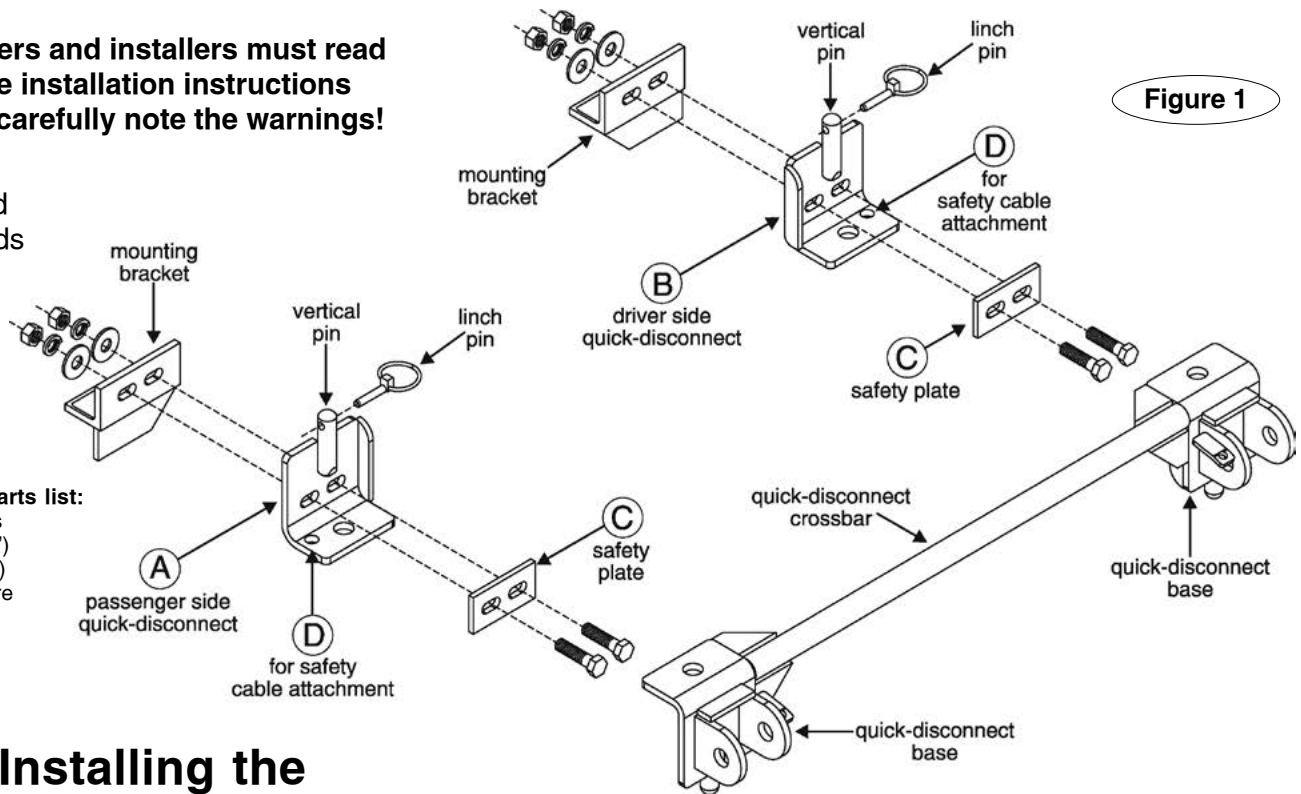

Figure 1
1. First, attach the quick-disconnects ("QDs," parts "A" and "B" in Figure 1) to the tow bar mounting brackets. Attach the QDs so that the vertical pin on each is pointing up, as shown in Figure 1.
Attach part "A" on the passenger side, and part "B" on the driver's side. Use the supplied $\frac{1}{2}$ " x $1\frac{1}{4}$ " bolts, the two safety plates (parts "C"), and the flat washers, lock washers and nuts, as shown in Figure 1.
Both QDs have an extra hole – "D" in Figure 1 – for safety cable attachment. Mount parts "A" and "B" so that the "D" holes are to the outside.